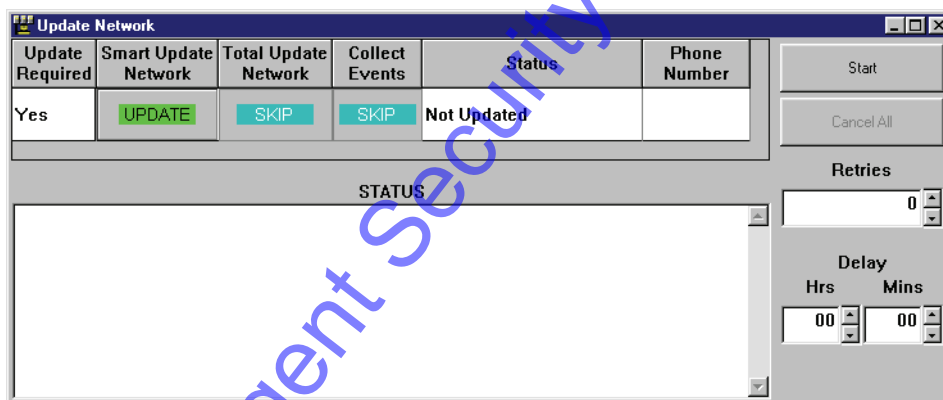

Figure 5-34: Required Network Update
1. Click on the  icon on the tool bar. The Update Network window will appear. If changes have been made and the network needs to be updated, the Update Required field will indicate this with a “Yes”, and the Skip/Update toggle box under the Smart Update Network field will indicate “Update” (see Figure 5-34).